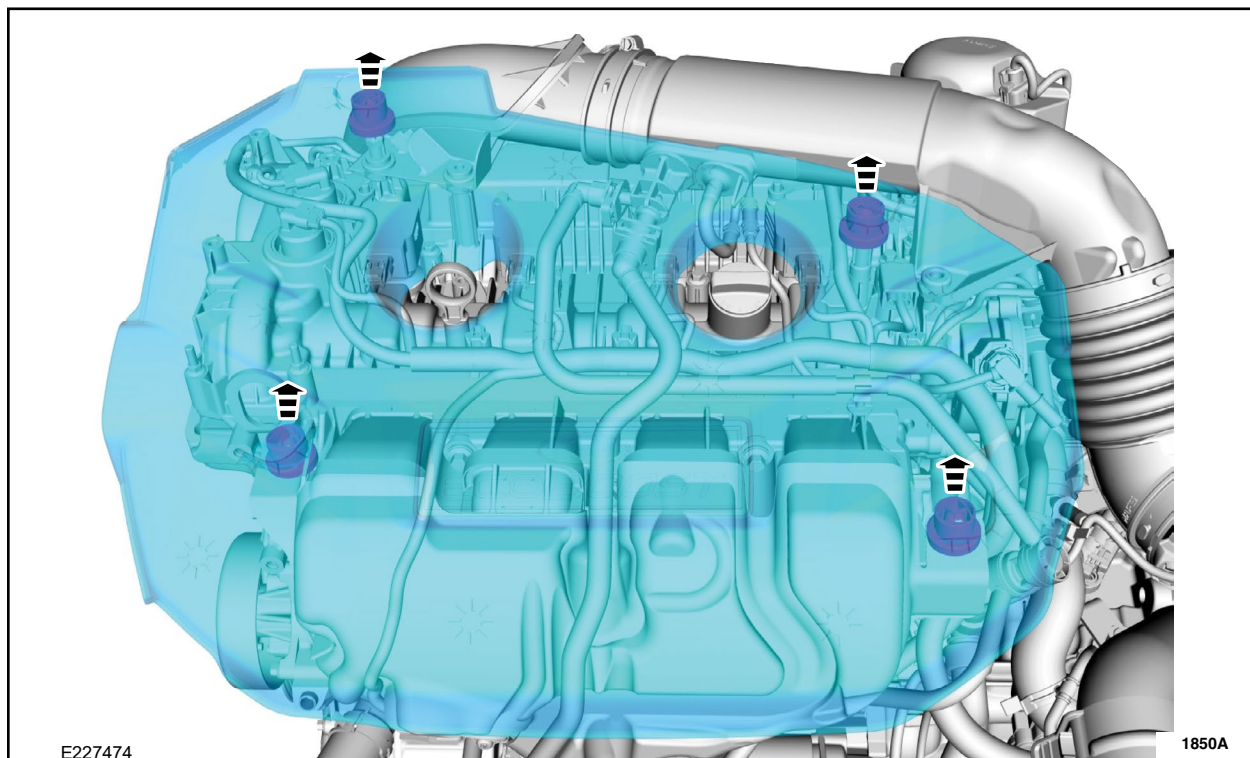

FIGURE 1
2. Remove the appearance cover from the engine. See Figure 1.